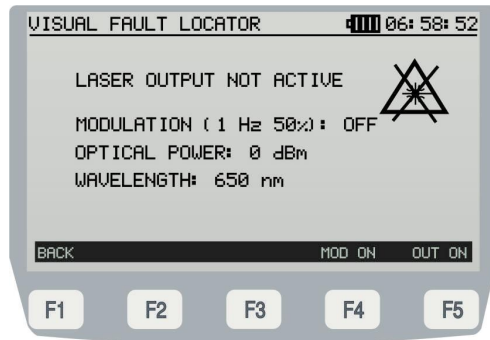

Figure 17.- FAULT LOCATOR module (NOT ACTIVE).
- 3.- Press  [17] or  [12]. It appears the **FAULT LOCATOR** screen (Figure 17 and 18).